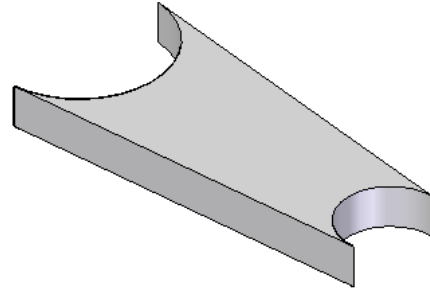

Figure 5-61 Base feature of the model
- Create the base feature on the top plane, refer to Figure 5-61.
4. Exit the sketching environment and then extrude the sketch symmetrically through a distance of 10 units. The base feature of the model is shown in Figure 5-61.